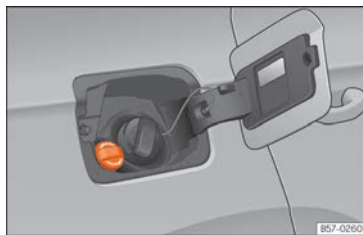

Fig. 186 AdBlue tank cap®.
- Open the tank cover >>> **Fig. 186.**
- Turn the SCR tank cap anti-clockwise >>> **Fig. 186.**